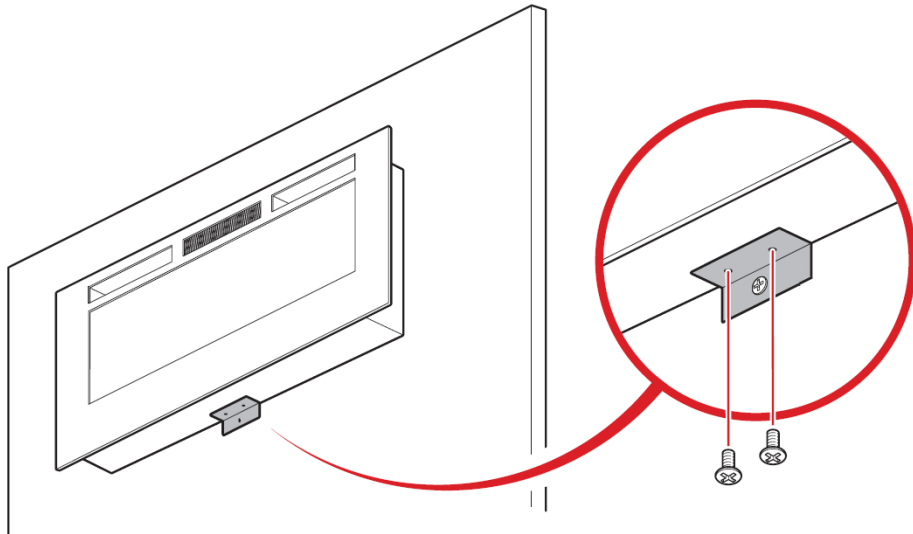

Fig.8
- Attach the bottom bracket to the heater with two 4*30mm screws Fig.8